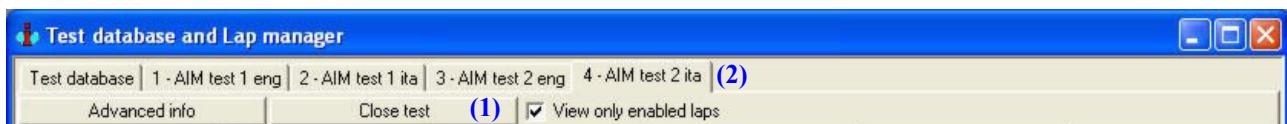

Fig. 3.11– Test database and Lap manager window: how to close a test.
If you wish to close a test, you may select it (left click on the corresponding layer) and then press “Close test” (1) button, as shown in Figure 3.11, you may select it and choose the Unload test function located inside the Data toolbar, you may use the shortcut “ALT+F3” or you may double-click on the loaded test file inside the Test database and Lap manager window.